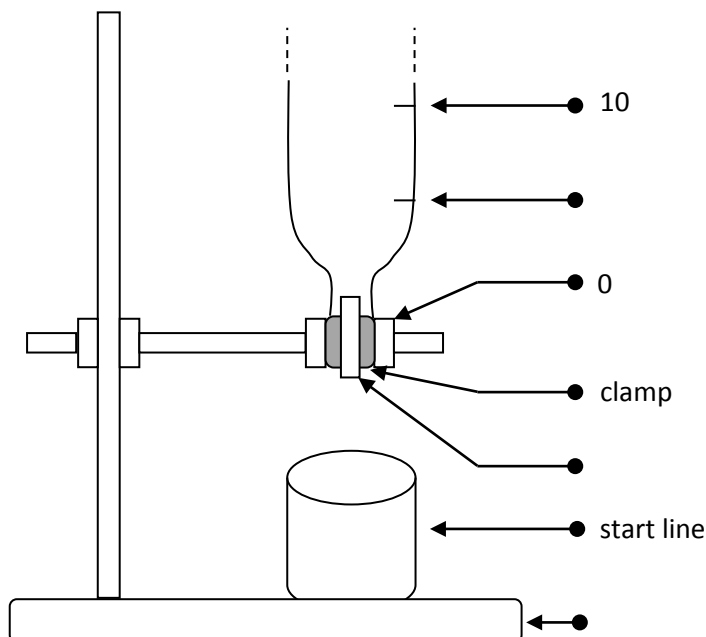

Figure 1. Set up of DIY Viscosimeter.
6. Set up the DIY Viscometer as shown in the Figure 1.